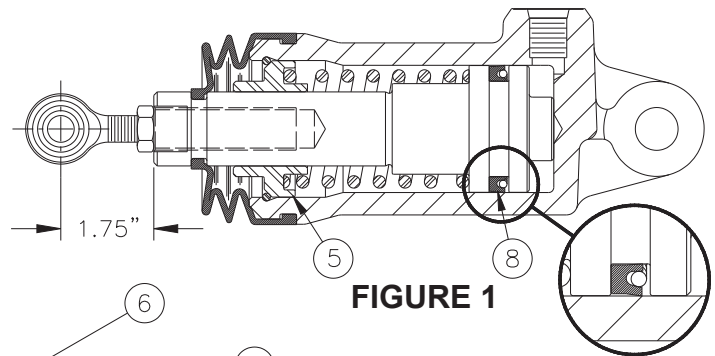
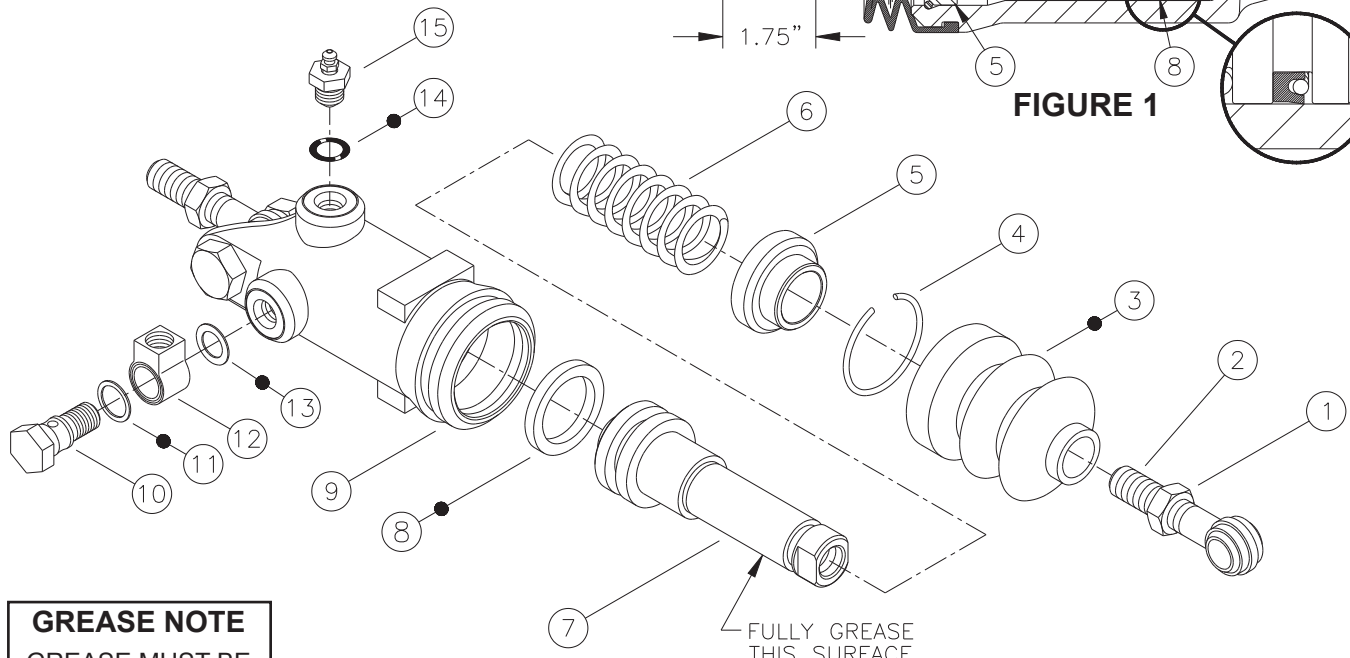

FIGURE 1
FIGURE 2
3. Lubricate new o-ring (14) from repair kit with clean system fluid and install new o-ring on bleeder plug (15).
4. Install bleeder plug (15) in housing (9).
5. Install line bolt (10) through new gasket (11), fitting block (12), new gasket (13) and into housing (9). Finger tighten line bolt.
6. Lubricate new cup (8) from repair kit with clean system fluid and carefully install on piston (7). Note direction of cup (See Figure 1). Be careful not to damage new cup while installing.
7. Use a light silicone grease to fully lubricate surface of piston (7) as shown in Figure 2.
8. Completely lubricate housing (9) bore with clean system fluid and carefully install piston (7) into housing.
9. Install spring (6), bearing (5), and round ring (4) into housing (9) bore. Note direction of bearing (See Figure 1).
10. Install new boot (3) on assembly.
11. Screw rod end (2) into piston (7) to a dimension of 1.75" (See Figure 1) and torque nut (1) 45-50 lbs-ft.
13. Correctly position fitting block (12) and attach hydraulic line. Torque line bolt (10) 40-45 lbs-ft.